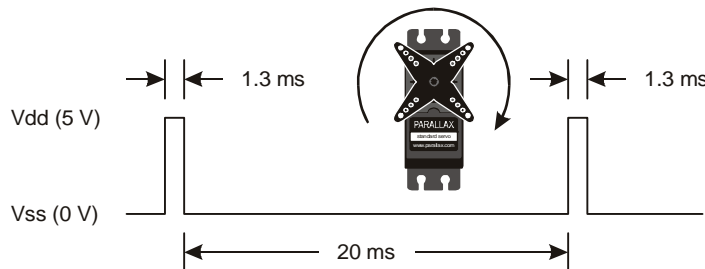

Figure 2-25
In the Your Turn section of Activity #2, you programmed the BASIC Stamp to send series of 1.3 ms pulses to an LED. Let's take a closer look at that series of pulses and find out how it can be used to control a servo. Figure 2-25 shows how a Parallax Continuous Rotation servo turns full speed clockwise when you send it 1.3 ms pulses. Full speed ranges from 50 to 60 RPM.
- Figure 2-25 on page 58: 1.3 ms high makes the servo turn clockwise.